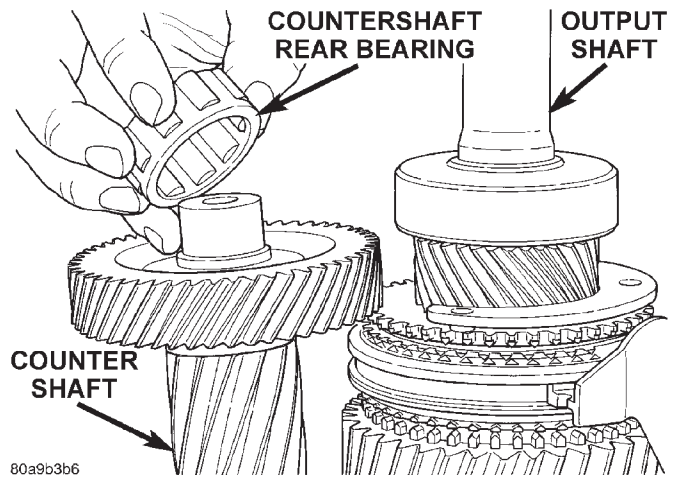

Fig. 32 Remove Countershaft Rear Bearing
- (4) Remove countershaft rear bearing from countershaft (Fig. 32).
- (5) Examine condition of bearing bore and idler shaft notch in rear housing. Replace housing if any of these components are damaged.